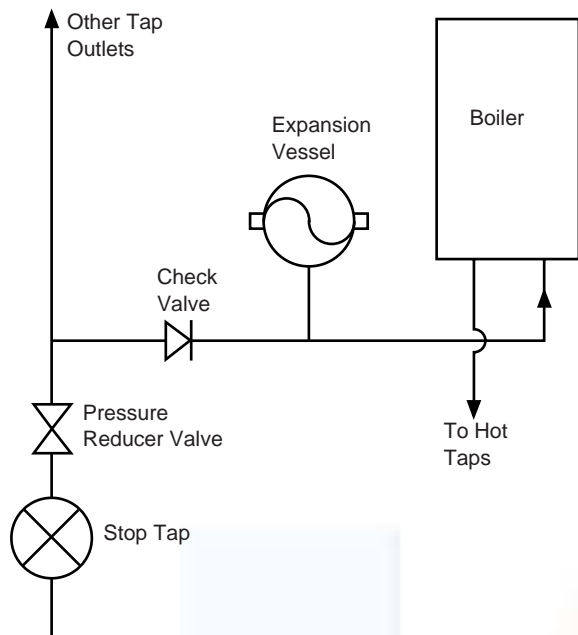

Fig. 6
6.8 Domestic Hot Water Circuit (Fig. 6)